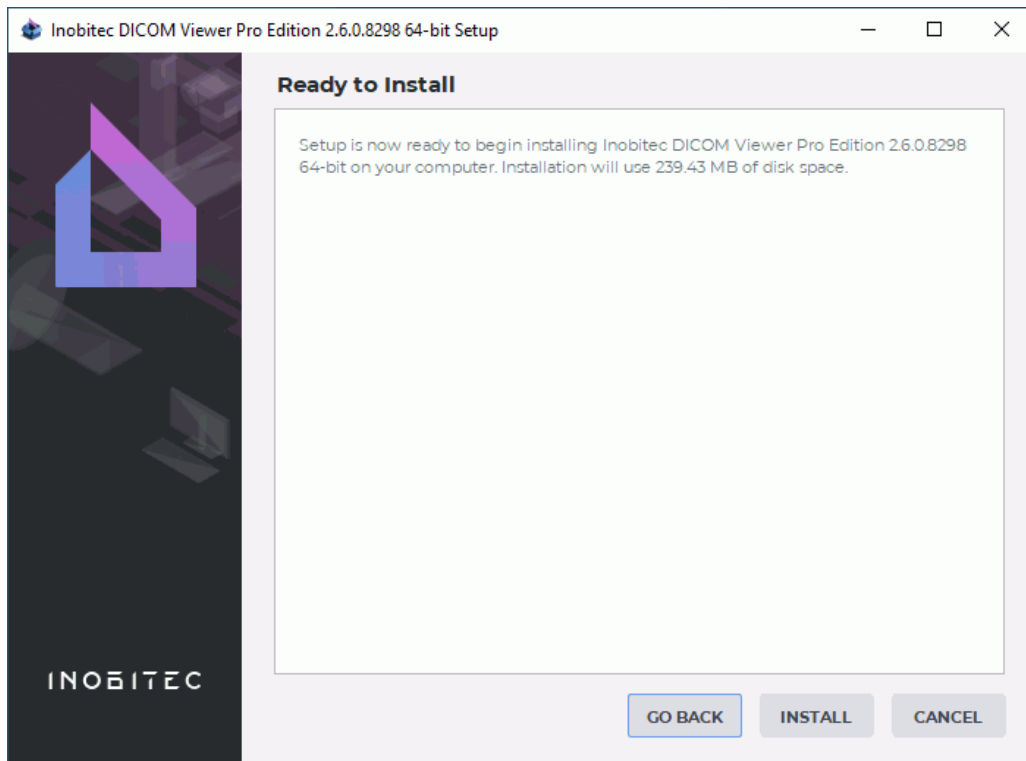

Figure 10: Confirm installation
12. In the confirmation window click the **INSTALL** button (Fig. 10).